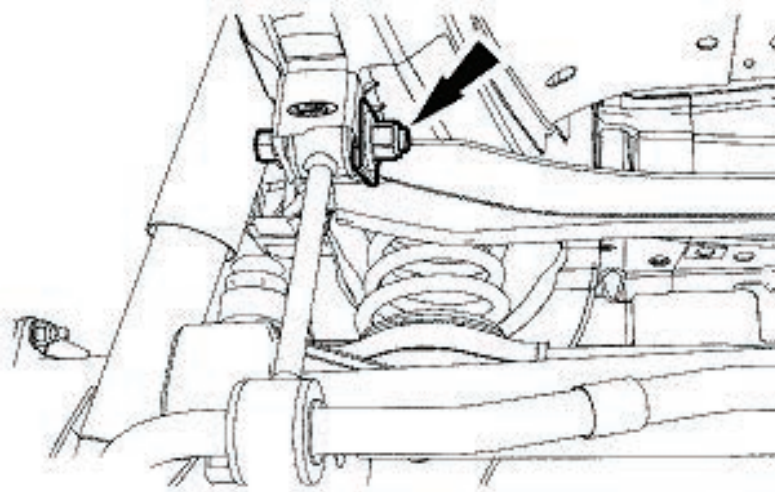

fig. 2
1. Disconnect the stabilizer bar from the chassis (fig. 2).